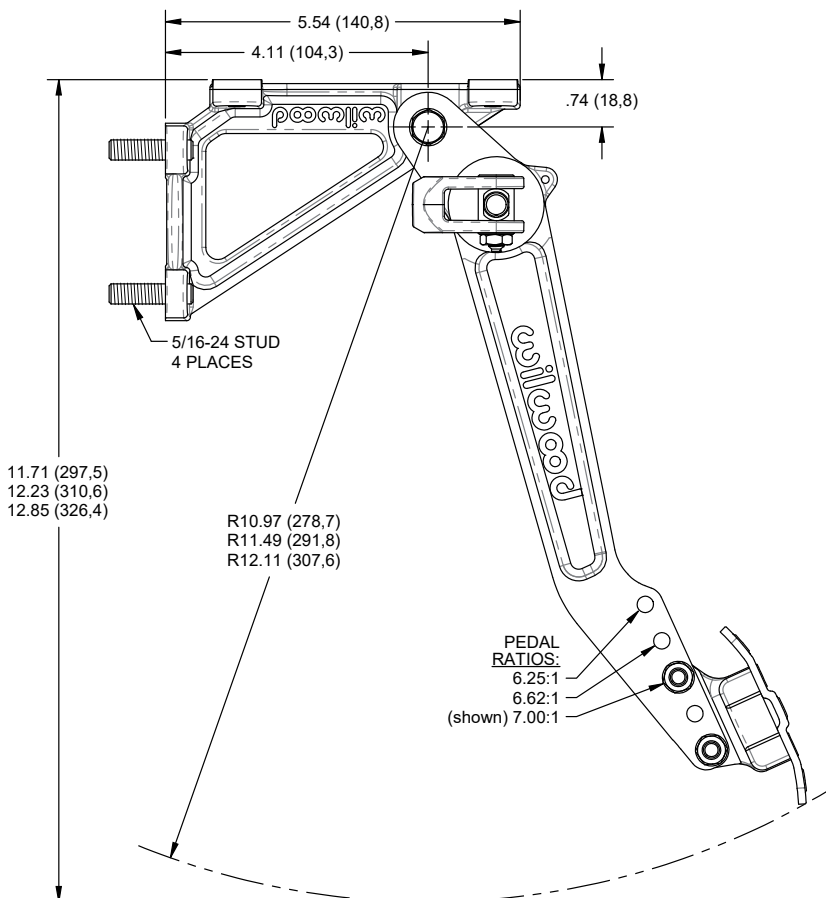

Figure 1a. Forward Swing Mount Single Pedal Assembly, Physical Dimensions, 6.25:1 to 7.00:1 Ratio (P/N 340-16379)
•Wilwood's forward swing mount single pedal assembly must be mounted using the four 5/16-18 threaded outboard mounting holes as shown in Figures 1a & 1b. Attach the pedal assembly to two sturdy beams or plates with four 5/16" bolts. Pedal assembly must be rigidly attached to frame and not deflect under heavy pedal forces. **NOTE:** Pedal must be free from obstructions over the entire range of motion. Allow enough space so balance bar adjustments can be made and master cylinders are accessible.